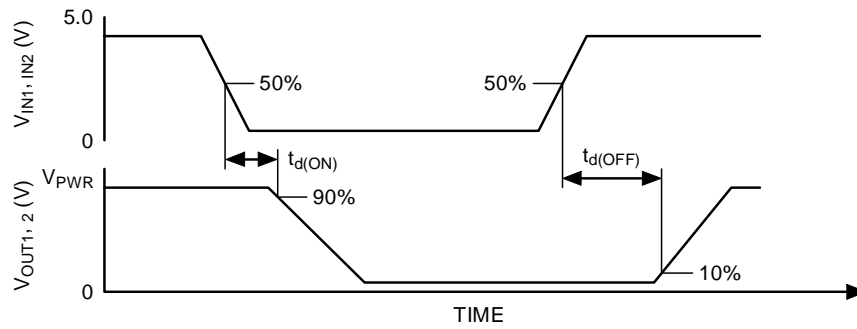

Figure 4. Output Delay Time
- Output Delay is the time duration from the midpoint of the IN1 or IN2 input signal to the 10% or 90% point (dependent on the transition direction) of the OUT1 or OUT2 signal. If the output is transitioning High-to-Low, the delay is from the midpoint of the input signal to the 90% point of the output response signal. If the output is transitioning Low-to-High, the delay is from the midpoint of the input signal to the 10% point of the output response signal. See Figure 4, page 8.